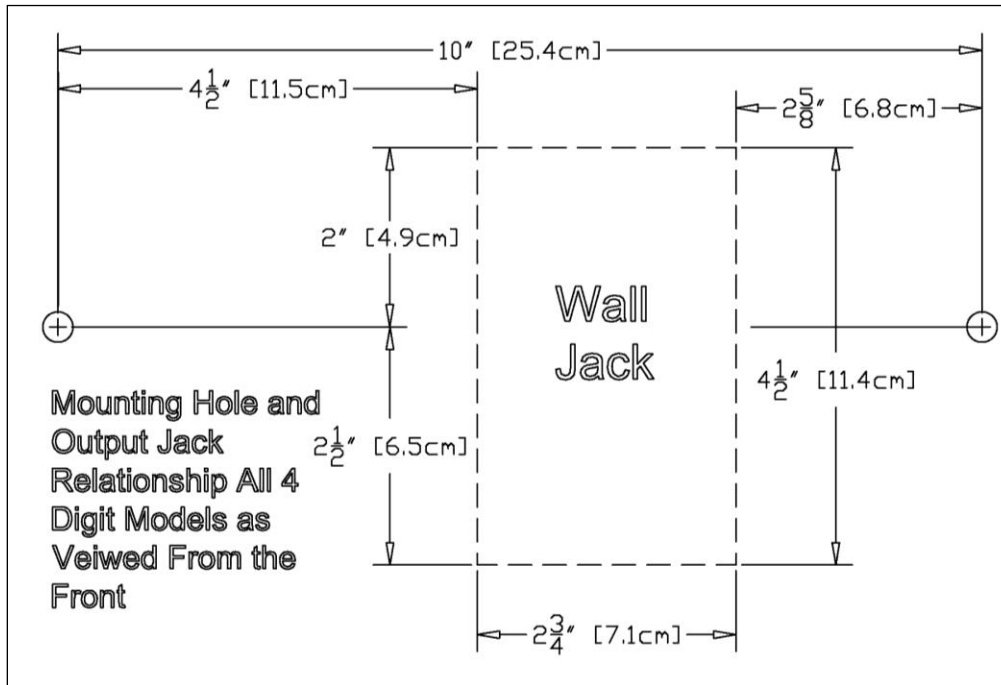
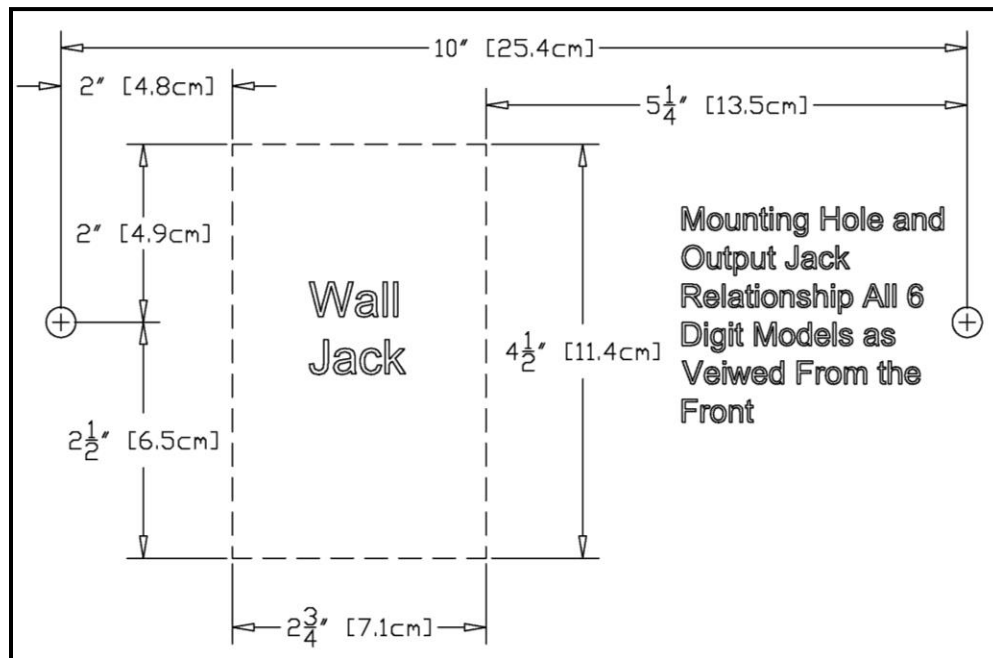

Figure 5: Mounting Template for 4-Digit Clocks
Figure 6: Mounting Template for 6-Digit Clocks
*Note that both models are mounted with a ten inch distance between screw hole centers; however, the best location for the wall jack varies. Refer to the templates in Figure 5 and Figure 6 to ensure that you line the wall jack up with the recess in the back of the unit.*